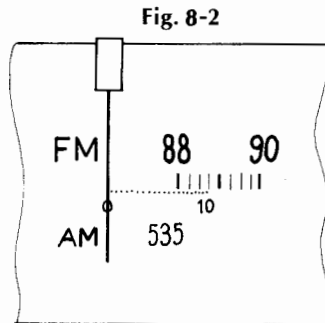

Fig. 8-2
- 2) Set the dial pointer to the 0 position on dial scale (Fig. 8-2).